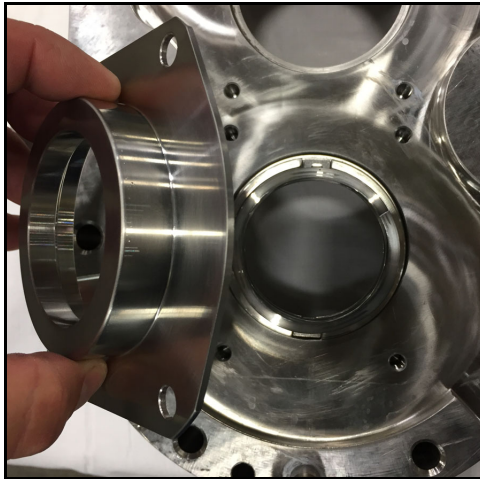

Figure 60 - Install seal housing
NOTE: Make sure the notch openings in the shaft ring are perpendicular to the ports, and in line with the bores. See Figure 60 on page 41.
8. Install the seal housing, as shown in Figure 60.